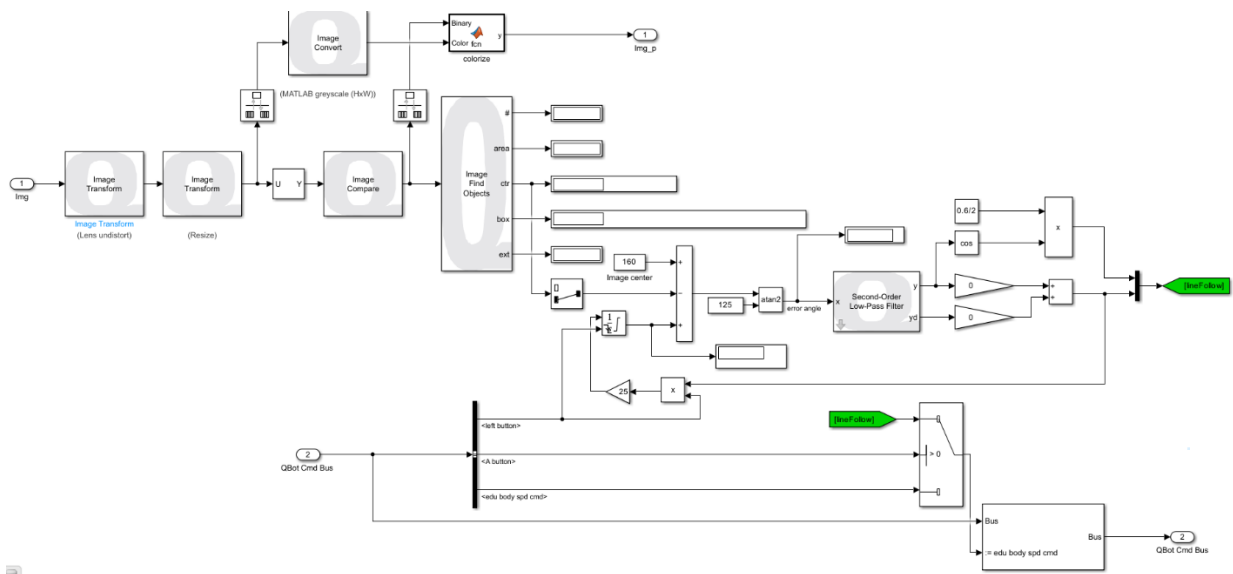

Figure 2. Image Processing Block
1. In this lab you will be focusing on processing the information from the downward facing camera to allow the QBot to drive by itself. This will be done in the **Image Processing** subsystem. At the end of the lab, it should look like Figure 2.
7. Use your new Omega to compensate for curves when finding the center. The left button should reset values when needed. Use the completed subsystem from Figure 2 as a reference. What does this code do? Take notes.